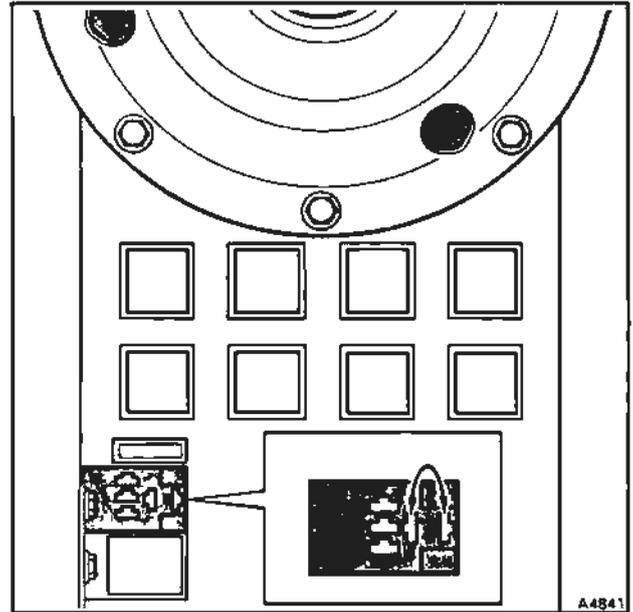

Fig. 2 Bridging the relay base
7. Remove the pump relay (grey) between the right-hand side spring pot brackets. Using a link wire (see fig. 2), bridge the contacts for ten seconds to operate the electric water pump. Remove the link wire and replace the pump relay.